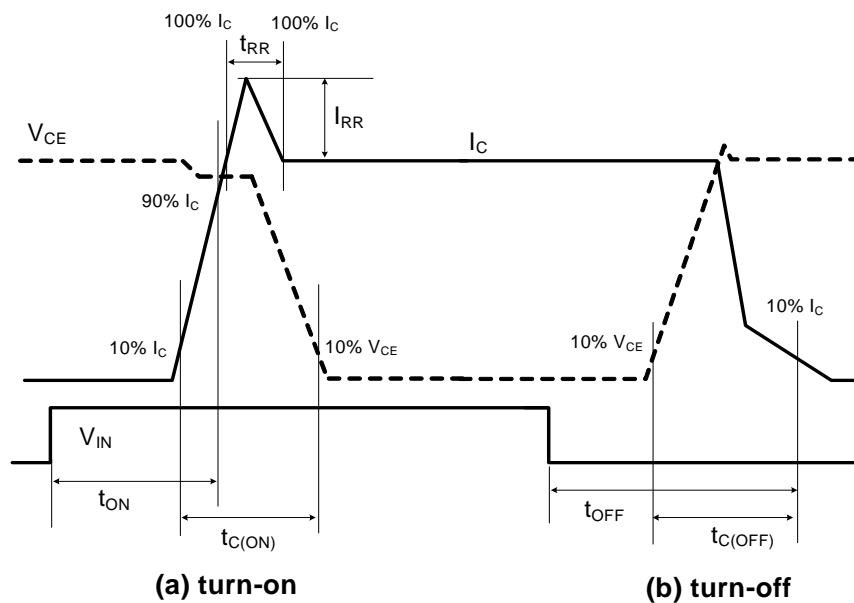

Figure 4. Switching Time Definition
3. t_{ON} and t_{OFF} include the propagation delay of the internal drive IC. t_{C(ON)} and t_{C(OFF)} are the switching time of IGBT itself under the given gate driving condition internally. For the detailed information, please see Figure 4.